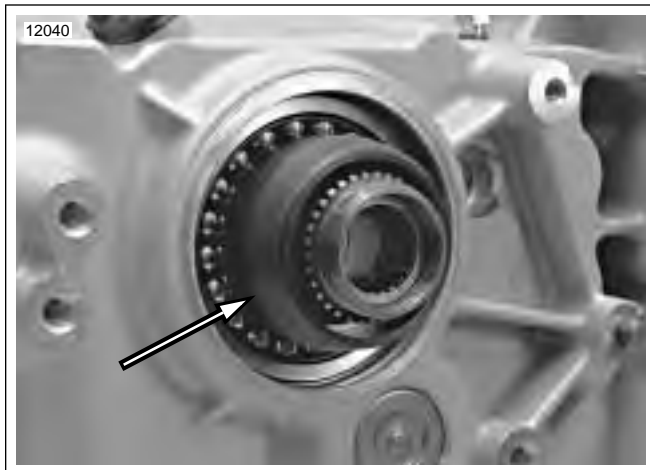

Figure 6-77. Install PILOT (Part No. HD-47856-2) (Typical)
1. See Figure 6-77. From outside of crankcase, install PILOT (Part No. HD-47856-2) over end of main drive gear bearing inner race.